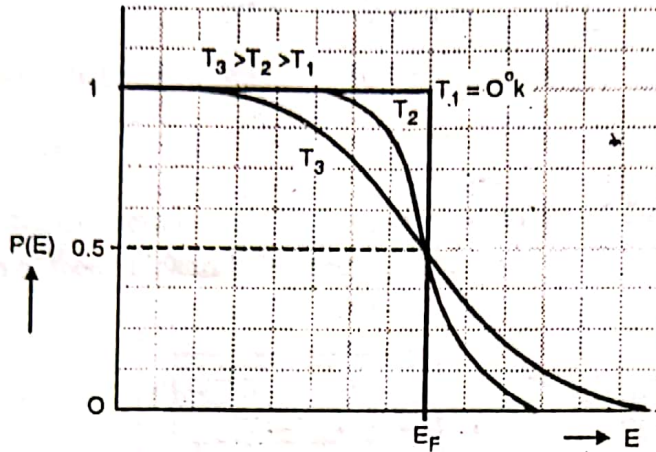

Fig. 2.12.1
- This function as plotted for different temperatures is shown in Fig. 2.12.1. From these curves it is observed that :